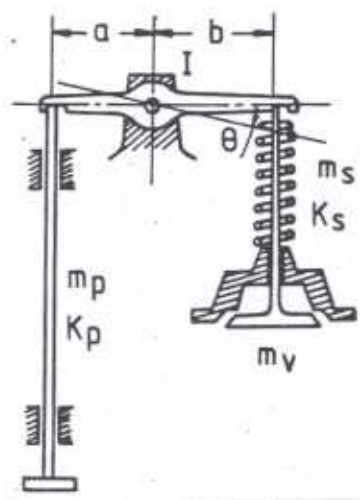

FIG. 1
1. A push rod rocker and valve of an engine valve system is shown in fig. 1. The mass moment of inertia of the rocker about its axis is I , the masses of the valve and push rod are m_v and m_p , respectively. The valve spring stiffness is K_s and its mass is m_s . The push rod can be replaced by a spring of equivalent stiffness K_p . Determine the natural frequency of the system in Hz, considering the rocker and valve to be rigid, and accounting for the mass of the spring and the push rod. (20)